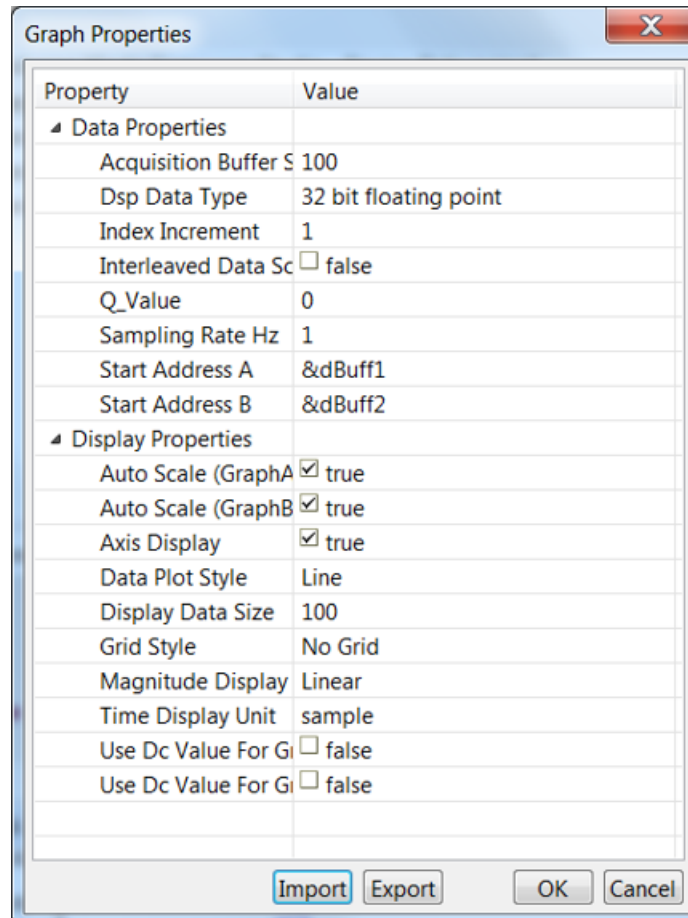

Figure 22. Graph Settings
- The current and voltage measurements can be verified by viewing the data in the graph window. These values are logged in the slower 10-kHz routine. Go to *Tools* → *Graph* → *DualTime*, and click on *Import* and point to the *graph1.GraphProp* file inside the project folder. This file will populate the graph properties window. Alternatively, the user can enter the values as shown in the Figure 22. Once the entries are verified, click *OK*. Two graphs will appear in CCS. Click on *Continuous Refresh* on these graphs. A second set of graphs can also be added by importing the *graph2.GraphProp* file.